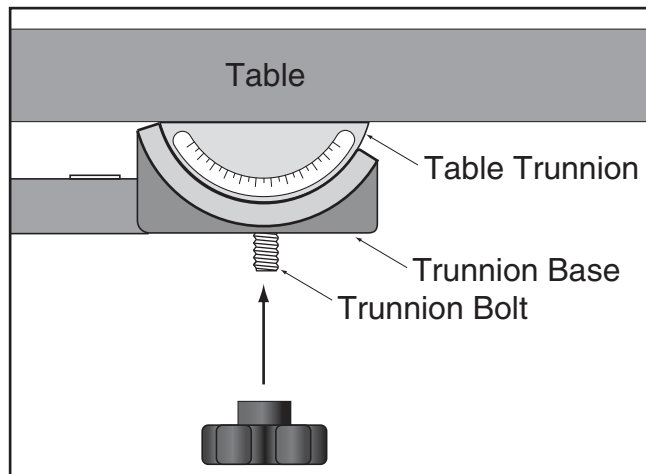

Figure 15. Installing the table onto the trunnion base.
- Rotate the table so that the table slot faces to the right, then insert the table bolts through the mounting holes in the trunnion base, as shown in **Figure 15**.